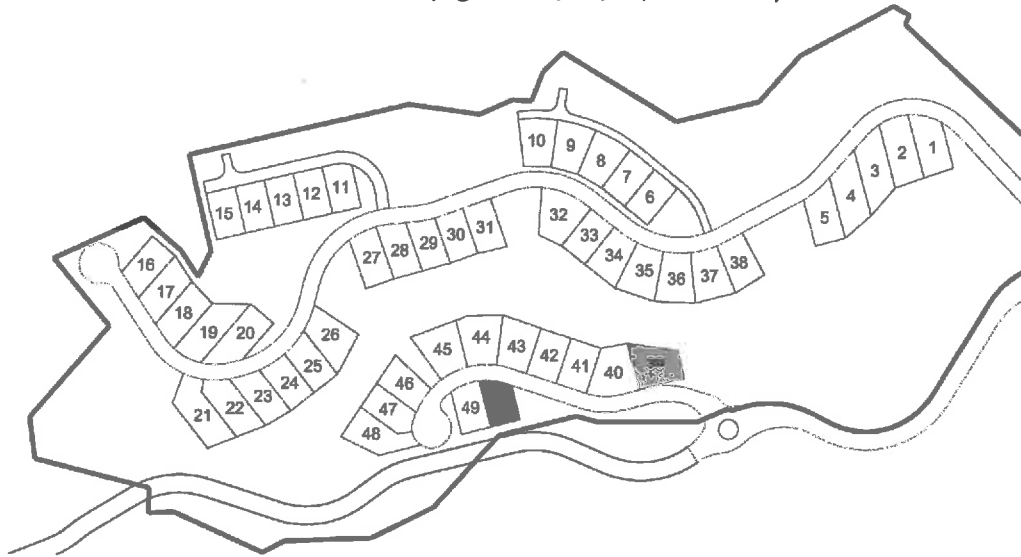

Figure 7a. Lots requiring setback modifications
- 4.1.9.10.d - Setback modifications (Figures 7a, 7b, 7c, 7d and 7e).